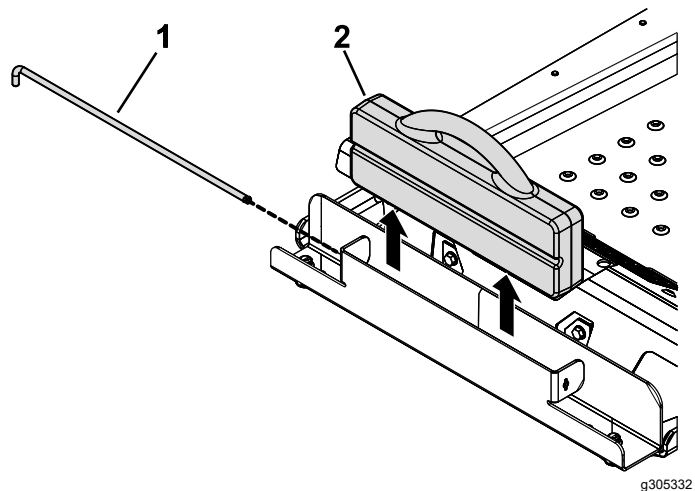

Figure 1
1. Remove the retaining rod and suitcase weight (Figure 1).
4. Install the suitcase weight behind the plate and install the retaining rod (Figure 1).